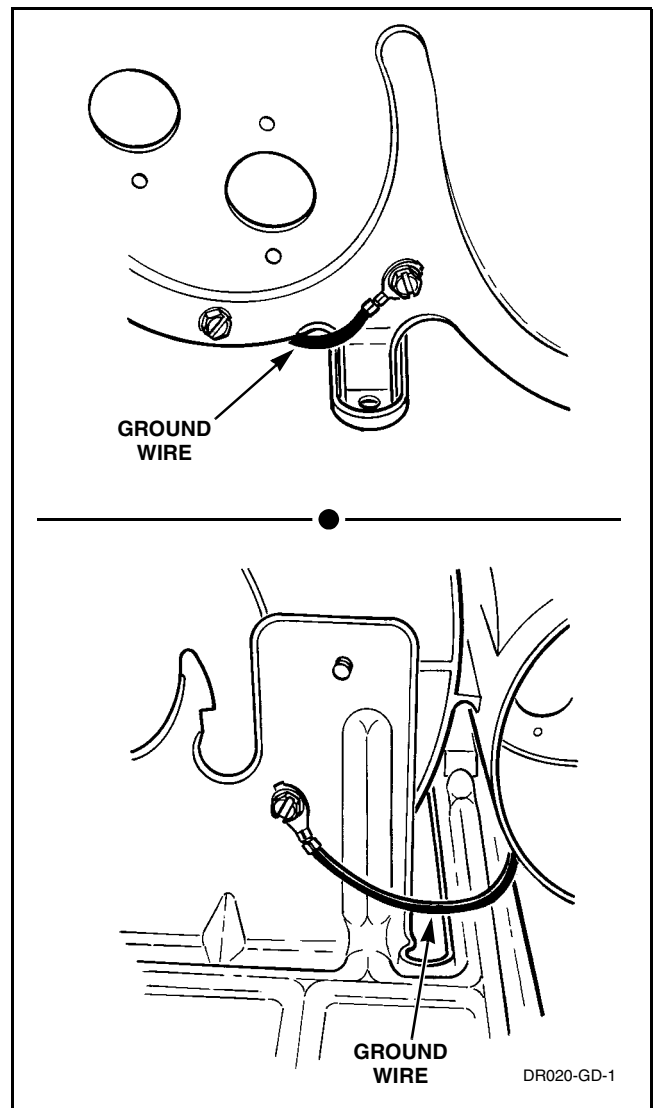

Figure 2
17. MOTOR MOUNTING BRACKET TO EXHAUST FAN COVER (Gas and Electric Models—with painted exhaust fan cover) Figure 2 – (Ground wire not used on unpainted covers)